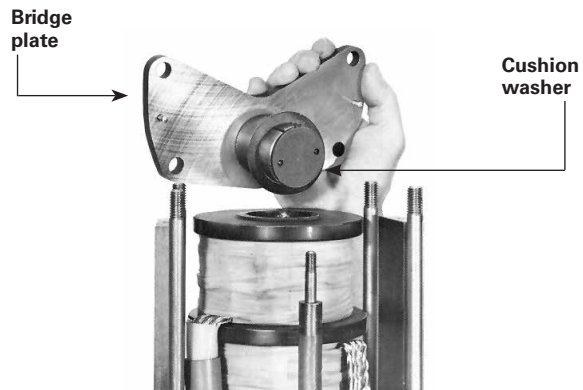

Figure 19. Bridge plate removal
- Using a 3/4-in. box wrench, remove four hexnuts that secure the solenoid bridge plate. Lift this plate off as shown in Figure 19. Note that a red cushion washer is attached to the plate.